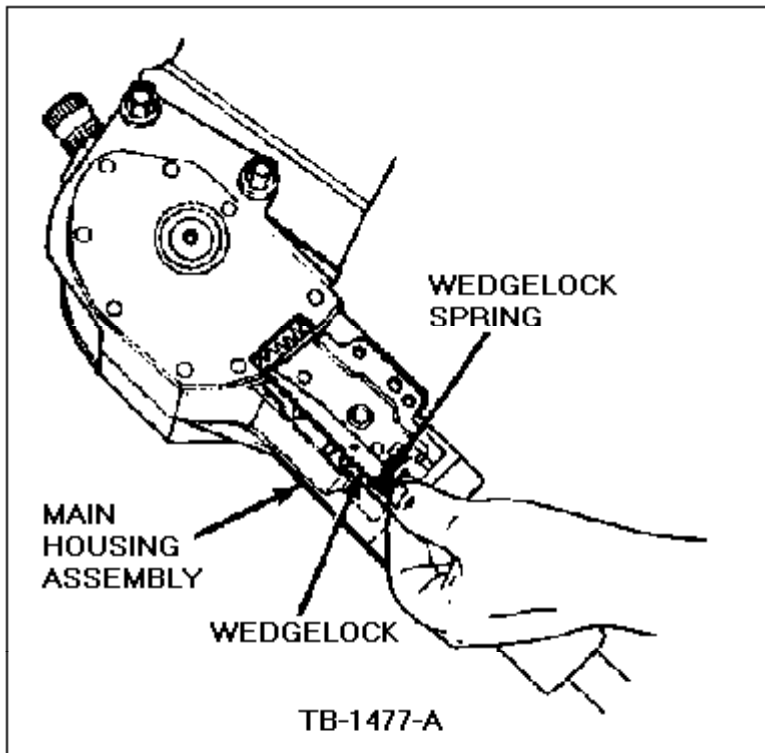

Figure 10 - Article 90-5-10
11. Remove the wedgelock and wedgelock spring, Figure 10.